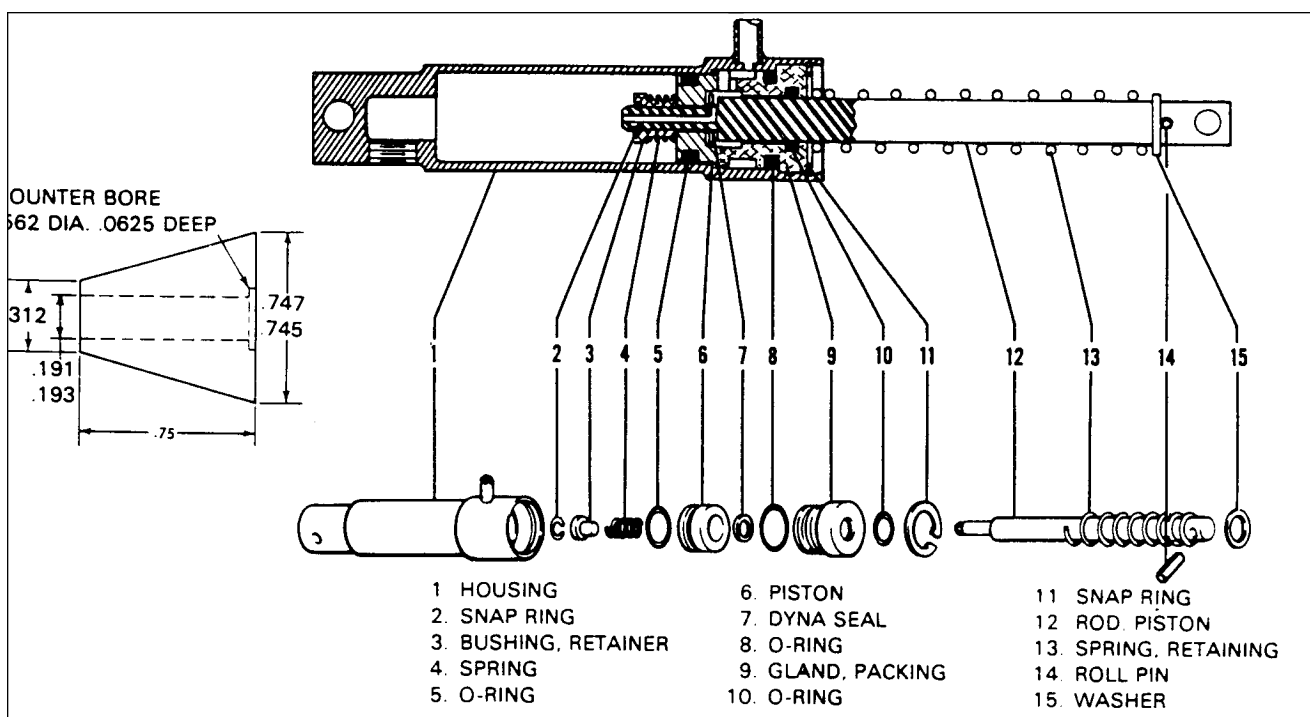

Figure 32-14. Brake Master Cylinder (Hand/Parking Brake)
1. Install new O-ring on inside and outside of packing gland and on outside of piston. (When installing teflon O-ring on piston, it is recommended that it be installed with use of a cone placed against piston. Construct cone of plastic or metal with dimensions shown in figure 32-14.
INSTALLATION OF BRAKE CYLINDER (TOE BRAKE) (figure 32-14)